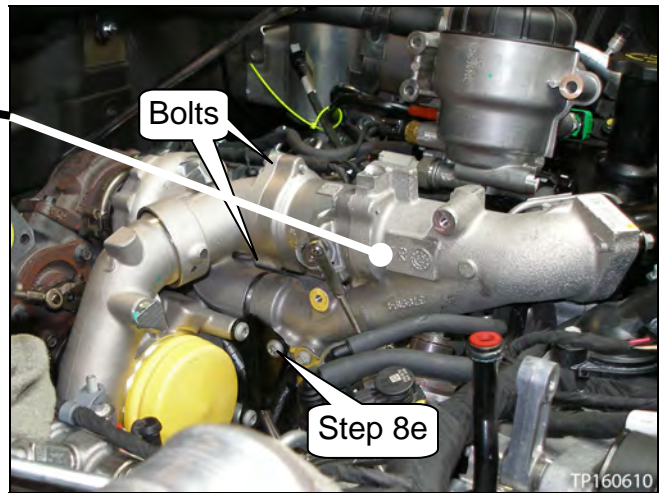

Figure 63
- d. Install two new bolts (see Figure 63).
- e. Install the T45 TORX[®] bolt finger tight (see Figure 63).